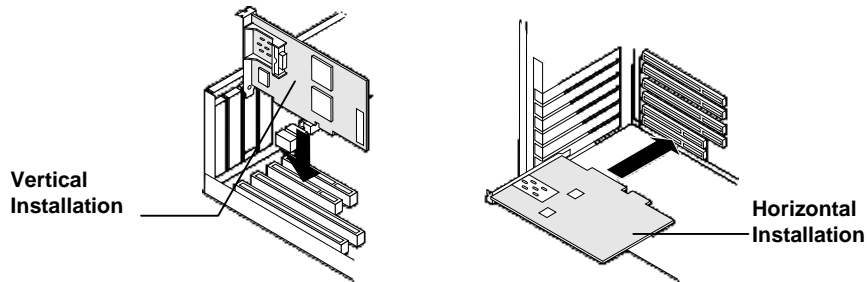

Figure 1. Installing the FC I/O adapter
- e. Insert the FC I/O adapter into the slot. Push the adapter into the slot until it clicks into place (see figure 1).